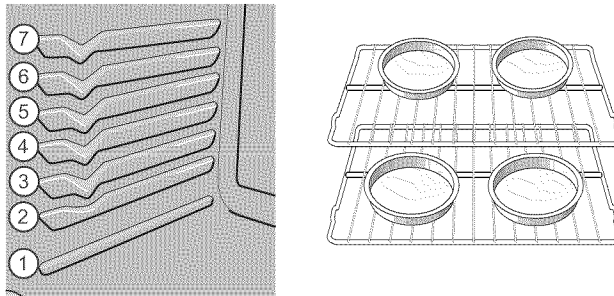

Figure 23: Convection rack positions and pan spacing
- When baking using 2 oven racks, position bakeware as shown in Fig. 23, on page 18. Allow at least 2 inches (5 cm) of space between bakeware for proper air circulation.